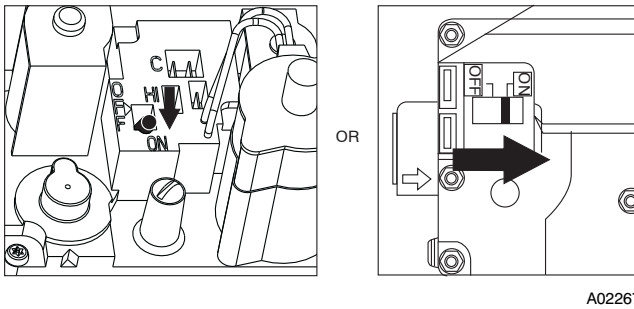

Fig. 9 – Control Switch to ON
7. Turn the control switch to ON. See Fig. 9.